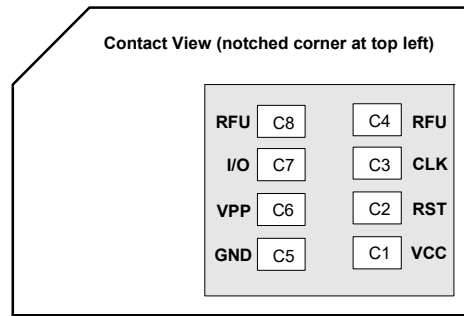

Figure 3-4: SIM Card Contacts (Contact View)
a. See Figure 3-4 on page 30 for SIM card contacts.